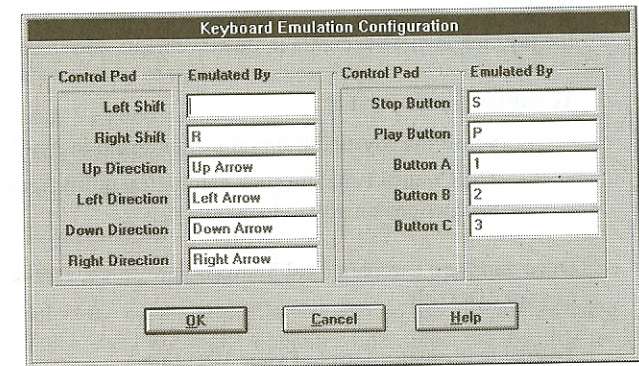

Figure 4-9: The Keyboard Emulation Configuration dialog box.
1. Select the Keyboard Mapping command in the Emulation menu. The Keyboard Emulation Configuration dialog box in Figure 4-9 appears.